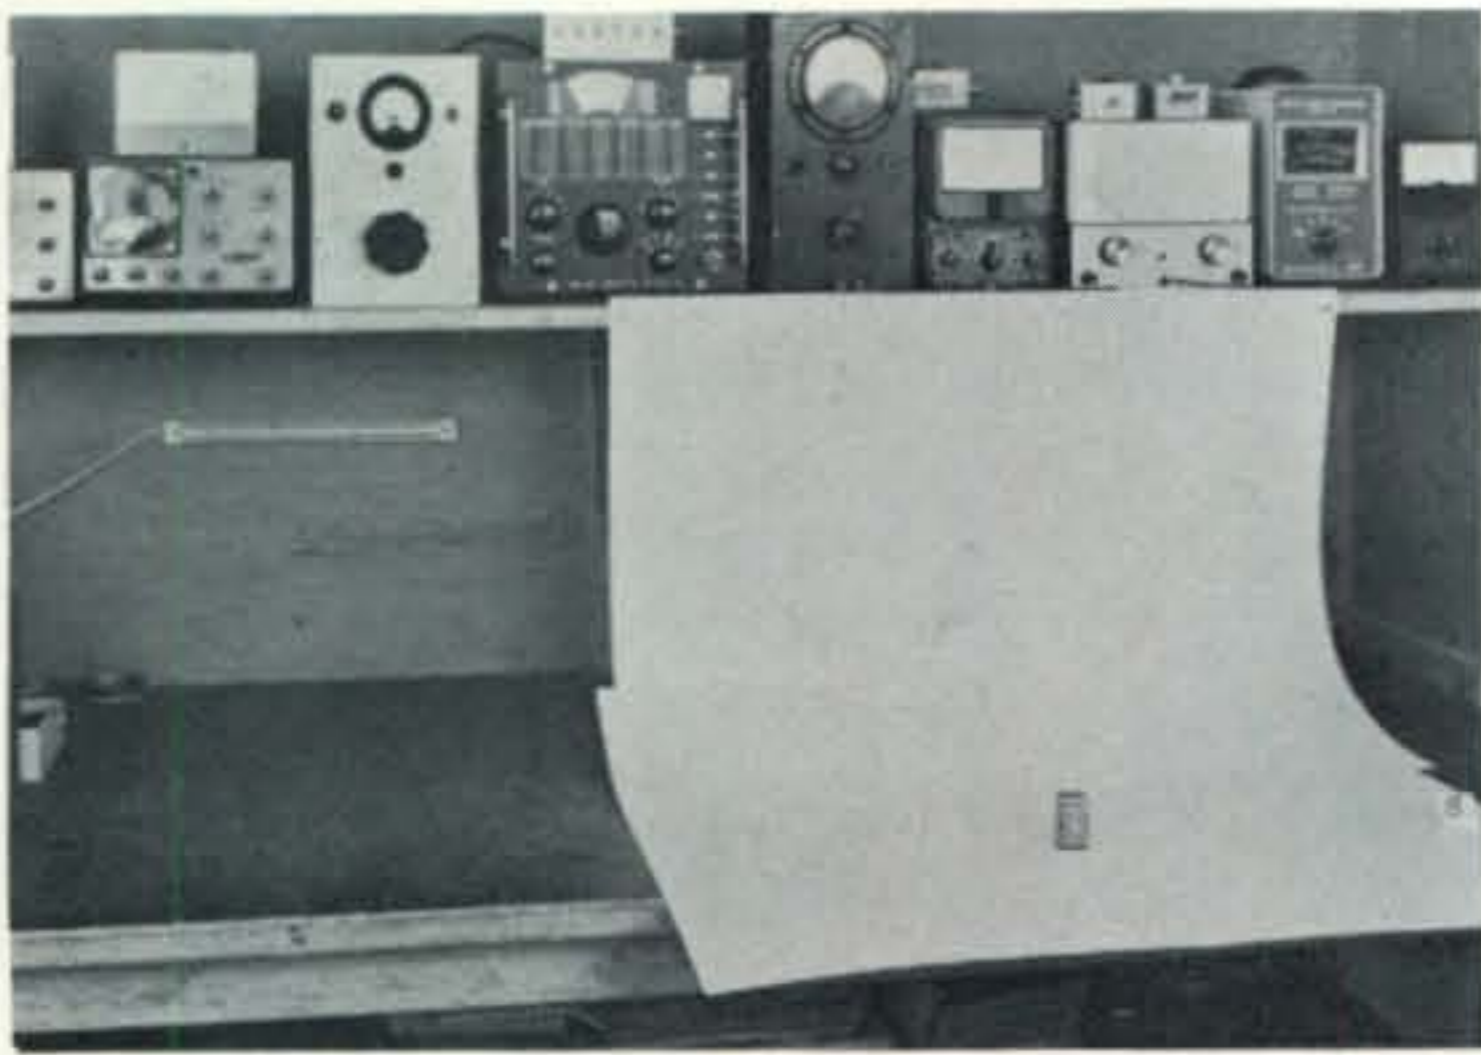

Fig. 1 — Table-top background setup as described in text using two sheets of Bristol board. The overlap is not noticeable.
For "front-view" photos, place one sheet of background material against a wall or other vertical surface securing the top edge of the material with plastic tape or thumb-tacks. The lower portion should be curved about 18" from the top so it rests on a table or floor next to the wall. For additional foreground, another piece may be placed on the base with its rear edge overlapping the "backdrop." See fig 1. If the overlap is made evenly flat, the seam will not show with the lighting method described later, but if unevenness cannot be avoided, the joint may be secured with clear tape. Where a wider background is needed, additional sheets may be similarly set up alongside the others.
Fig. 1—Shown above are typical filter response curves. (A) is a typical s.s.b. filter response and (B) is that of single crystal filter. Resultant responses when both filters are in series are shown in (C), (D) and (E) for different crystal frequencies as explained in the text.
Most transceivers today use either a crystal or mechanical filter for s.s.b. Usually the same filter, because of its expense, is used for both the transmitting and receiving functions. Figure 1 (A) is representative of the response shape of such a filter in either the l.f. range of 400 to 500 kc or h.f. range up to 9 mc.
Figure 1 (B) is typical of the response of a single-crystal filter (not the crystal itself but as the response would be formed by use in a typical circuit). The single crystal can be visualized as a hi-Q series tuned circuit which presents a low impedance at its resonant frequency. It also has an anti-resonant frequency because of distributed parallel capacity which is always higher in frequency than the resonant frequency and at which the impedance is very high. The latter accounts for the pronounced "dip" in the response of fig. 1 (B) slightly above the crystal frequency F .